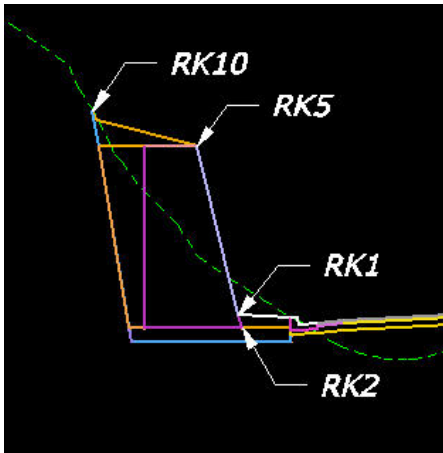

Figure 1-9: Search Text Locations for First Tier of Rockery
- 1.2.5 Define the Proposed Finished Grade. *Under Search Criteria, click on the button next to the Proposed Finish Grade. Add the Lv Names to the Proposed Finish Grade dialog. The Proposed Finish Grade must travel from catch point to catch point, and it must pass through the text points RK1, RK2, RK5 and RK10 (See Figure 1-9 for text locations). The following levels must be specified for a Rockery: X_P_RK_Wall_Backfill; X_P_RK_Wall_Face; X_P_RK_Wall_Back; X_P_RK_Wall_Tier and X_P_RK_Wall_Top. Close the dialog box.*
- 1.2.7 Generate the rockery chains and profiles. *Add the search text for; the bottom of Rockery (RK2), the top of Rockery (RK5) and excavation tie to existing ground point (RK10) as shown in the figure below. Click on the Add tab to add the text to the search text box. Click on the apply button to generate the chains and profiles based on the locations of the RK1, RK2 RK5 and RK10 text (See Figure 1-9).*